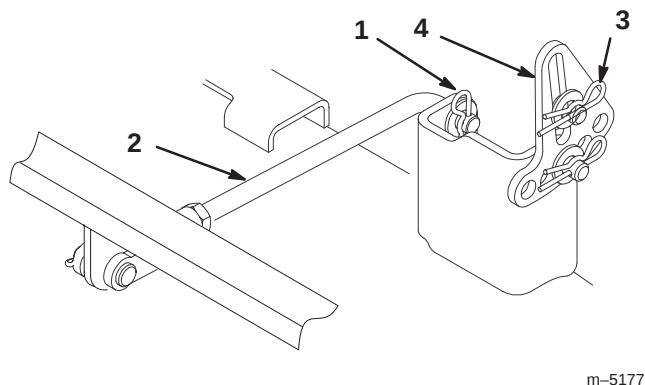

Figure 44
4. Remove the hairpin cotter and washer from the rear trunion rod (Fig. 44) on each side of the mower.
5. Remove the hairpin cotter and washer at the mower leveling brackets (Fig. 44) on each side of the mower. Note which hole the leveling bracket is mounted in for future installation. Slide the brackets off of the mounting pin.
4. Attach the rear trunion rod to the tractor with the washer and hairpin cotter (Fig. 44) on each side of the mower.
5. Slide the leveling brackets onto the mounting pins and secure them with the washers and hairpin cotters (Fig. 44).